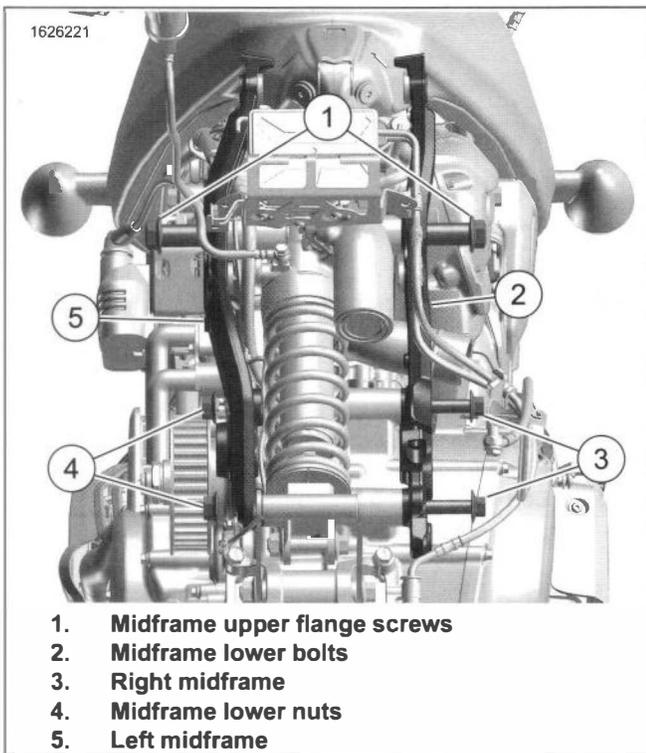

Figure 3-114. Midframe
1. See Figure 3-114. Place right and left midframes in position.
2. Loosely install upper flange screws (1).
6. Tighten midframe upper flange screws (1).